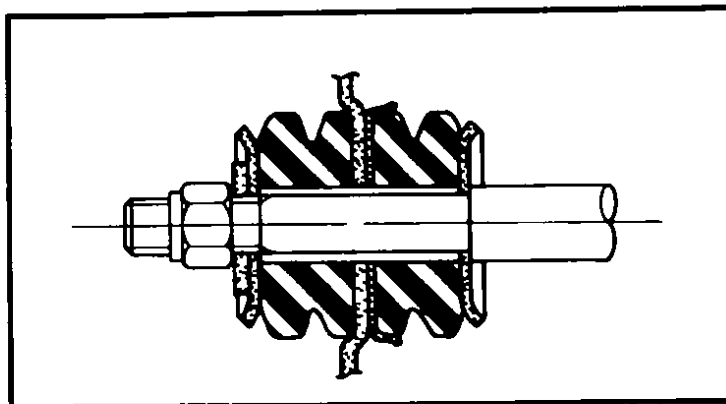

Fig 127 Installing tension rod bushing
- 5 Install the tension rod and connecting rod. Make sure that body side bushing is in correct position, Fig 127